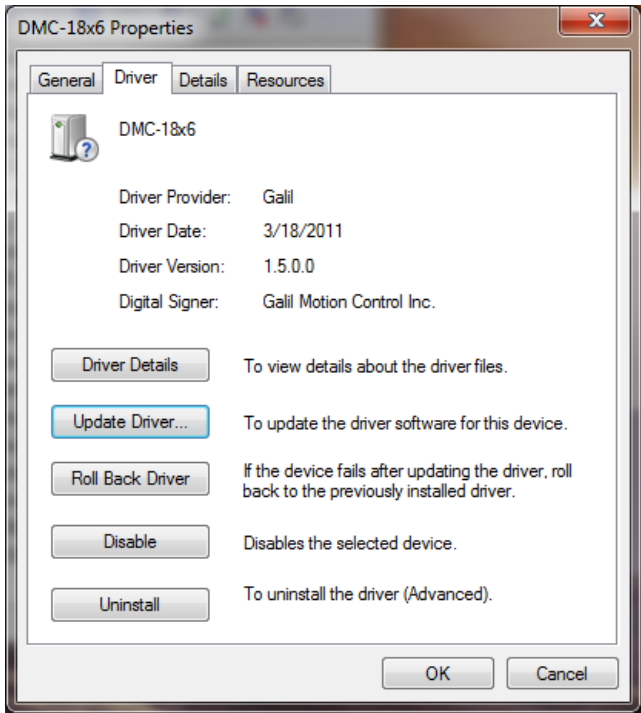

Figure 10: Properties
Find your Galil or PCI device in the Device Manger. Figure 8 and 9 show how scenario (1) and (2) will present themselves, respectively. Figure 10 shows a properly installed driver.